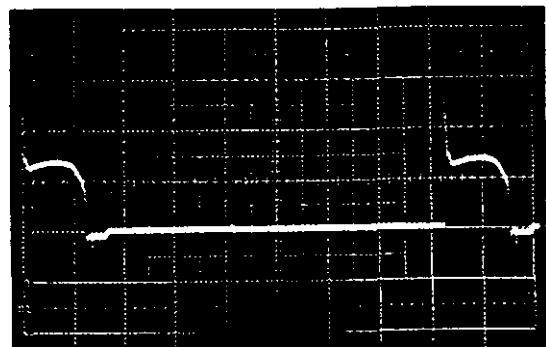

Figure 7-3. SCR Gate Pulses
- g) Observe the waveform displayed on the oscilloscope. The waveform should be similar to that shown in Figure 7-3. Amplitude should be approximately 1.5 volts peak-to-peak with a variable time duration dependent upon AC input voltage and output voltage setting. The waveform illustrated was taken with the rectifier operating at 206 VAC input and 52 VDC output with 50% load.